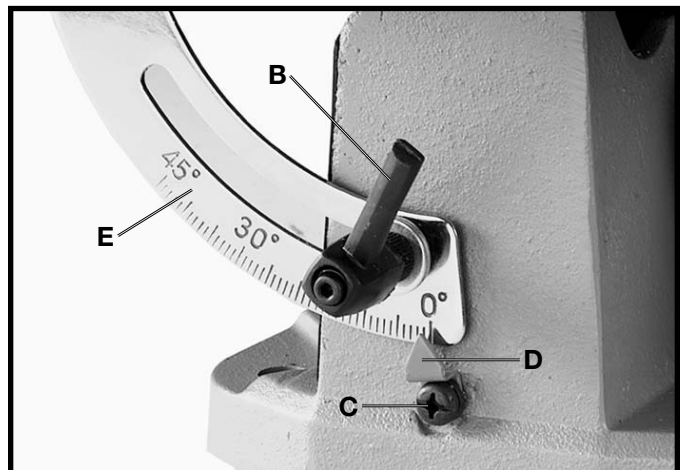

Fig. 23
3. If the table is not at 90 degrees to the blade, loosen table lock handle (B) Fig. 23, and adjust the table until it is 90 degrees to the blade. Then loosen screw (C) and adjust pointer (D) until it points to the 0 degree mark on the scale (E).